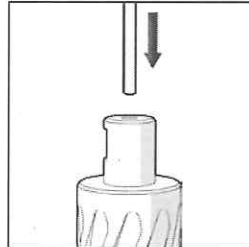

Fig. 6
- Insert the pilot pin into the cutter ensuring that it slides smoothly. (**Fig.6**)